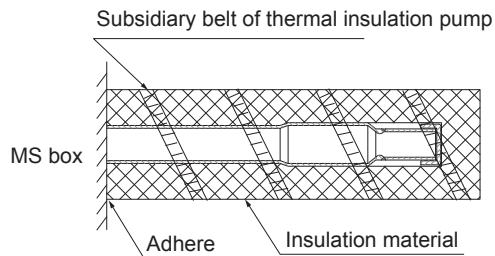

Fig.6-9
4. Insulation tube installation instructions for unused branch ports (indoor unit side) (gas and liquid pipes) (See Fig.6-9).